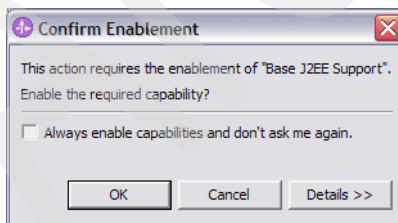

Figure 2-3 Confirm enablement
5. In the Confirm Enablement window (Figure 2-3) click **OK**.